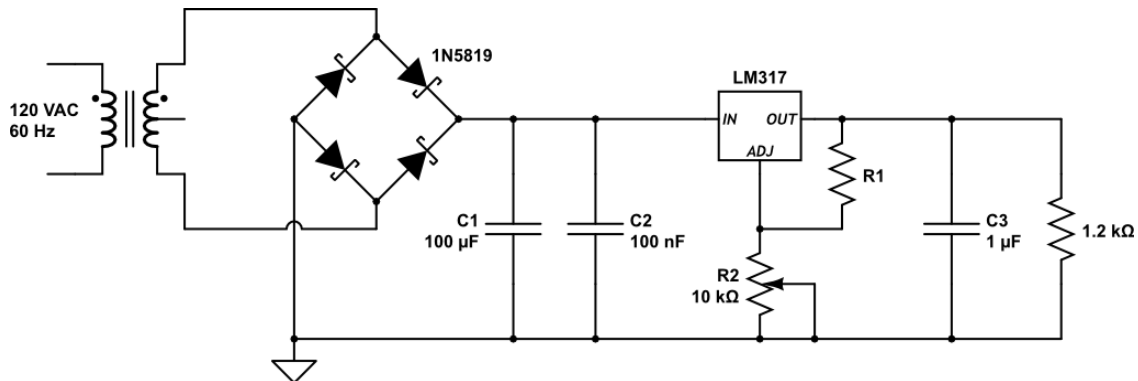

Figure 6: Adjustable regulated DC power supply
4. Using the value you determined for R_1 , construct the circuit shown in figure 6.